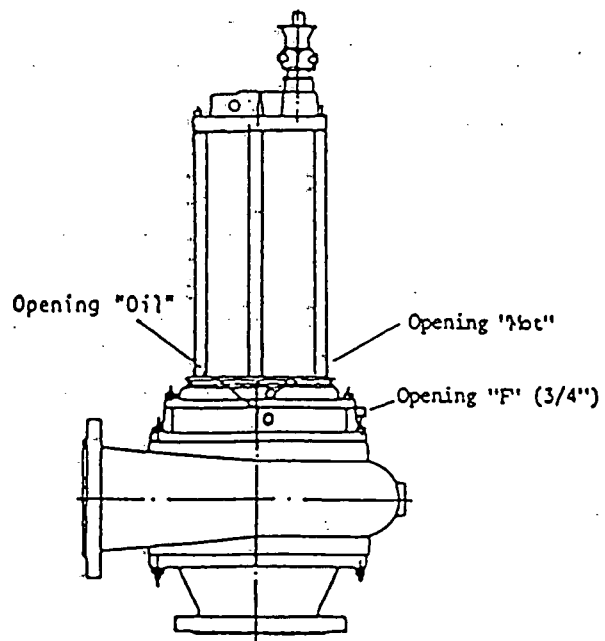

Fig. 7
This type (Fig. 7) transfers motor heat directly through the stator housing to the surrounding ambient liquid.
KEY FOR SYMBOLS ON FIG. 7:
Stand pump vertically on its suction flange. Remove plug "MOT" (see Fig. 7, 8 or 9) with copper washer (536) from stator housing so that any liquid can run out. Do the following repairs according to what comes out of the stator housings: